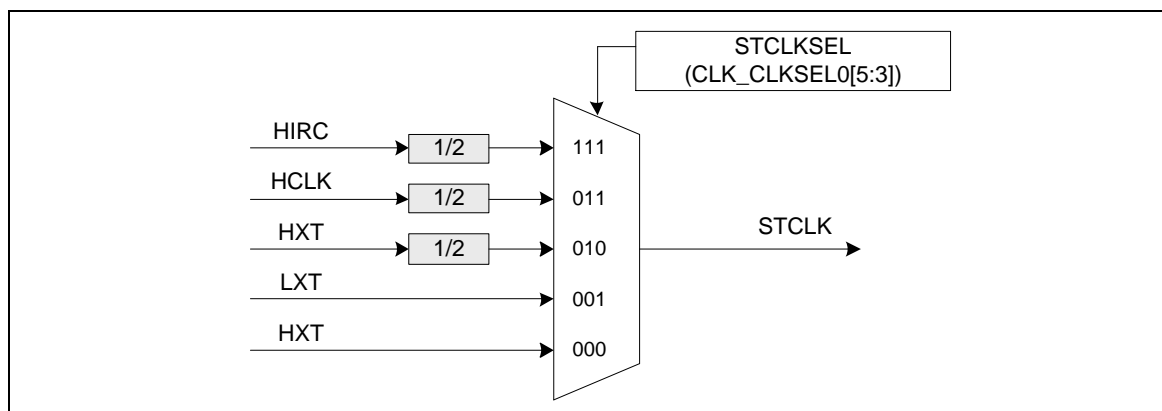

Figure 6.3-5 SysTick Clock Control Block Diagram
- If CLKSRC = 0, SysTick clock source is from one of the 5 external reference clock, which is chosen by STCLKSEL bits (CLK\_CLKSEL0[5:3]), shown in Figure 6.3-5.